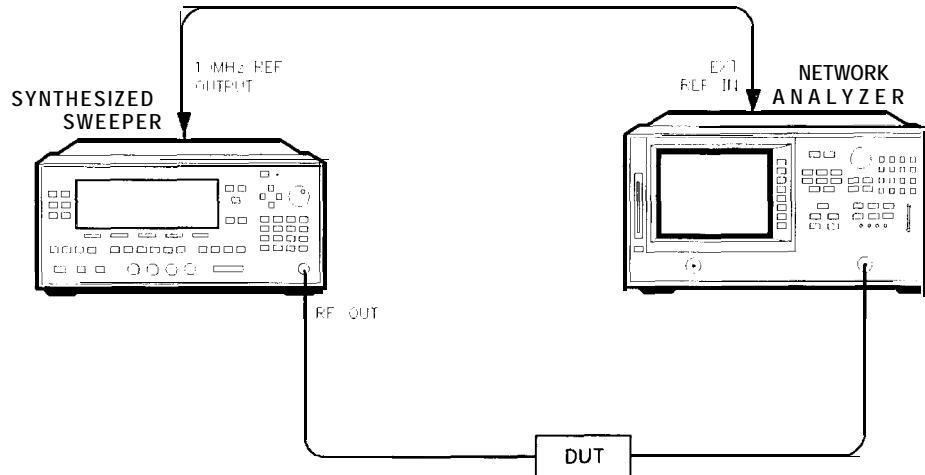

Figure 2-56. Typical Test Setup for Tuned Receiver Mode
2. Connect the equipment as shown in Figure 2-56 to perform a CW measurement using the tuned receiver mode.